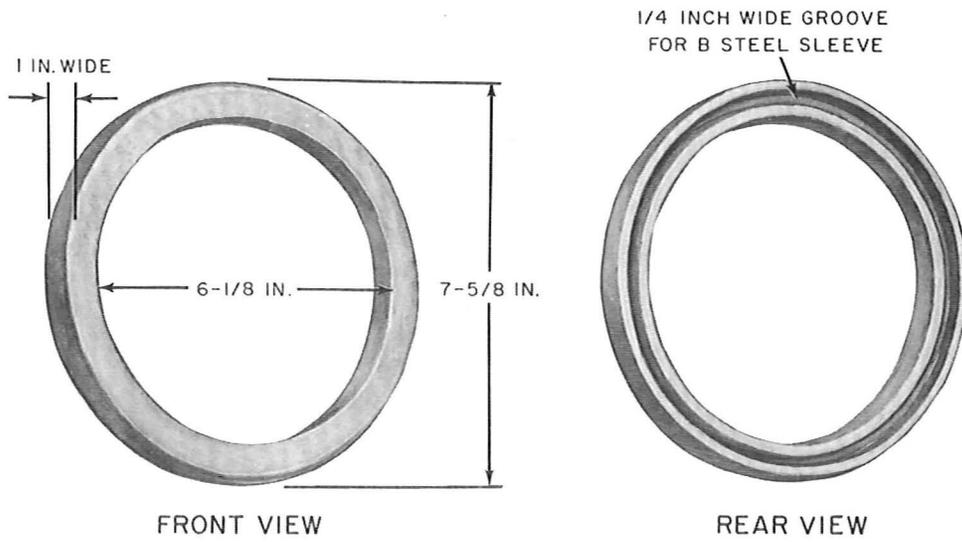

Fig. 2—B Lead Ring
2.03 The B Lead Ring (Fig. 2) is 1 inch wide, 7-5/8 inches outside diameter, and 6-1/8 inches inside diameter. It has a groove to fit over the end of the B Steel Sleeve and is solder-coated to facilitate the soldering operation.